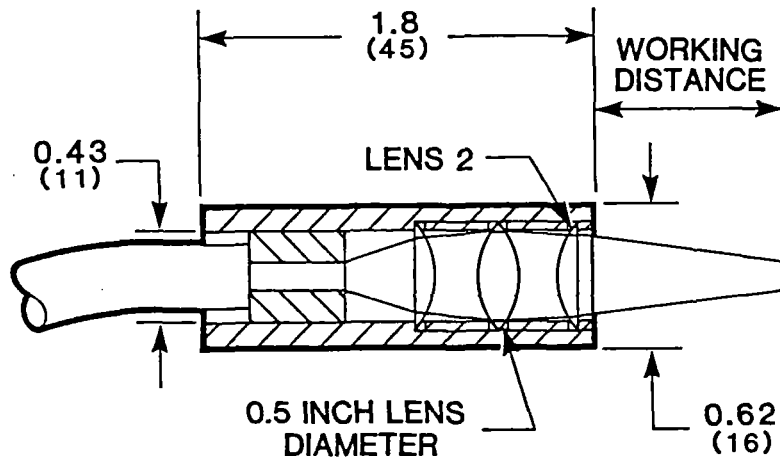

Figure 2
Refer to Figure 2 for a diagram of the Beam Probe 77651 which shows the output lens (referred to lens 2 in our catalog) installed.
1. Remove the forward retaining ring and set the front lens into place as shown in Figure 2.